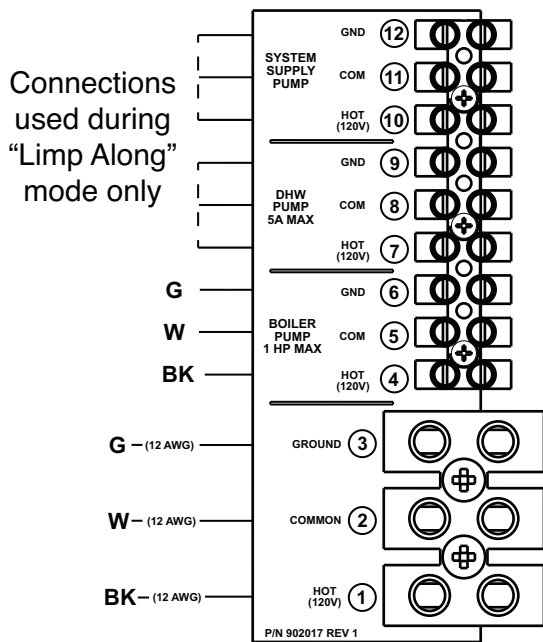

Fig. 23: VERSA Follower
2. For each follower boiler, connect the boiler pump wires to the terminal block at the rear of each unit. Connect to terminals 4, 5, and 6 as shown in Fig. 23.